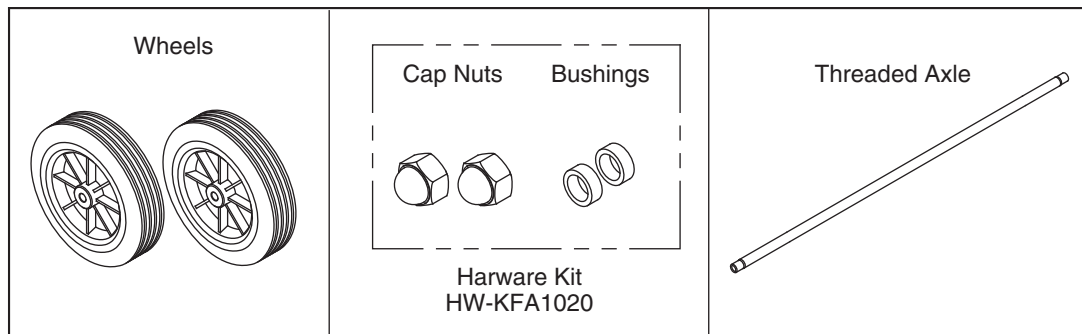

Figure 2. PACKING MATERIALS
1. REMOVE THE HEATER AND ALL PACKING MATERIALS FROM THE BOX. (See Fig.2)